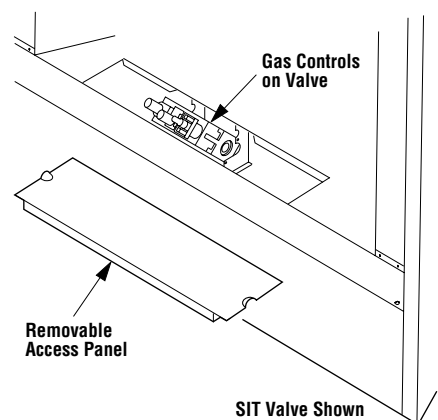

Figure 1
1. Appliance operation may be controlled through a remotely located optional wall switch. Separate switches may provide independent control for the remote controlled fireplace operation (optional equipment). In lieu of remote or remote wall switch operation, the appliance must be operated directly through the controls located on the front of the valve located within the control compartment under the removable access panel, *Figure 1*.
Operation of millivolt and electronic gas control systems are different. Before lighting and operating your appliance determine if you have a millivolt or electronic appliance. Refer to *Figure 1* to access the gas control compartment. Millivolt appliances will be fitted with one of the two gas control valves shown in *Figure 2*.